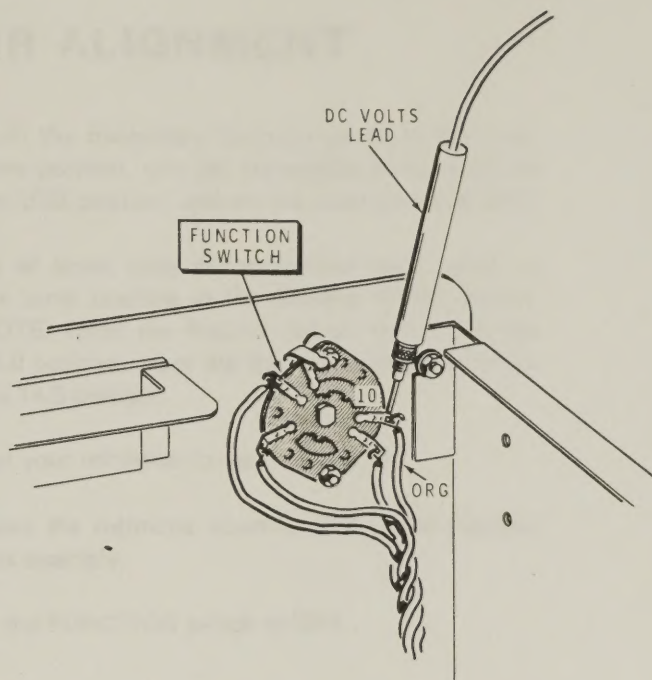

Figure 6
- (X) Adjust your voltmeter to read +15 volts dc.
- (X) Connect the voltmeter negative lead to the Receiver chassis assembly.
- (X) Rotate the AF GAIN control to the 9 o'clock position.
- (X) Turn the FUNCTION switch to OPR.
- () Refer to Figure 6 and touch or connect the meter dc volts lead to lug 10 of the FUNCTION switch. This lug has an orange wire connected to it.